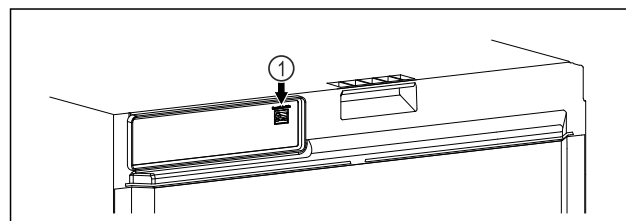

Fig. 108
- SmartModule Fig. 108 (1) is inserted.